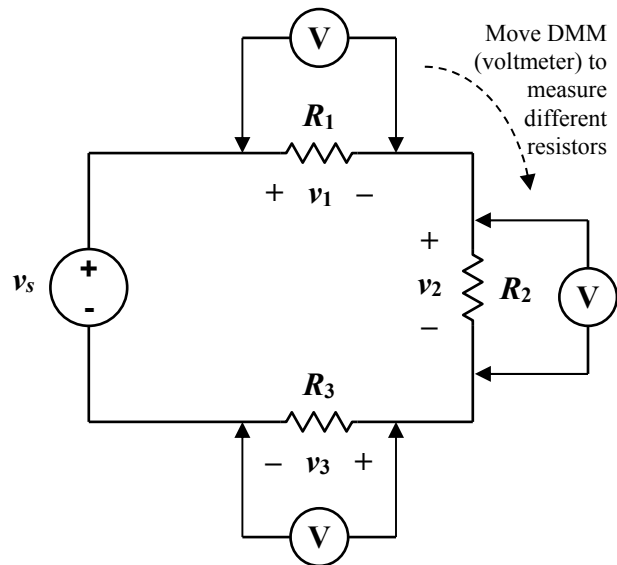

Figure 2.3c
8. Measure the voltage v_1 across resistor R_1 (**Figure 2.3c**). Record as $v_{1,m}$ in **Table 2-1**. Repeat for voltages v_2 and v_3 .